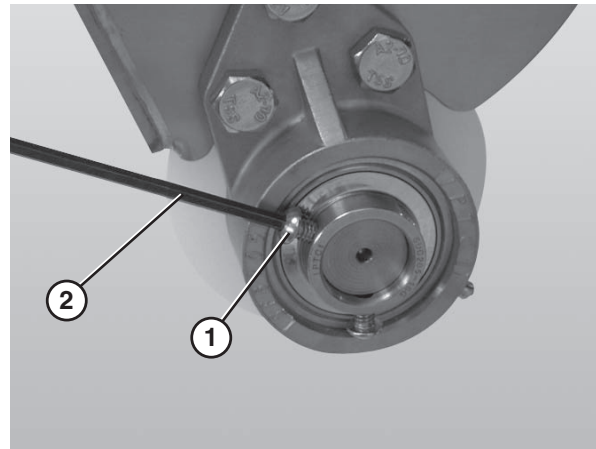

Figure 85
5. Tighten the 3 hole flange with bearing fasteners (**Figure 85, item 1**) using a hex wrench (**Figure 85, item 2**) to 6 N•m. Check after 24 hours of conveyor use.